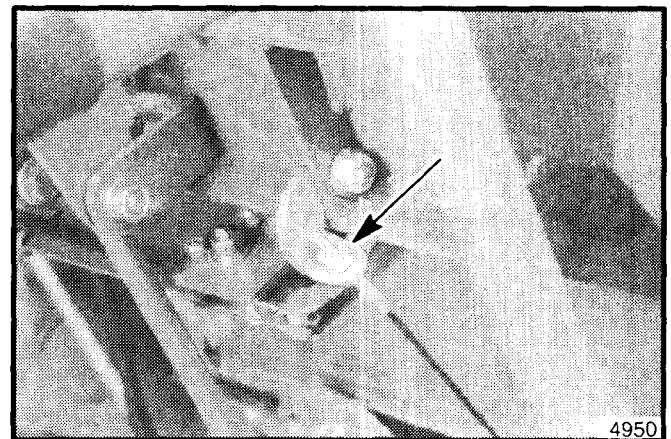

Figure 28. Cable Adjustment Nuts
2. After the hook has been adjusted. Loosen the two jam nuts at the top of the cable (see figure 28). Adjust the bottom nut to take up any slack in the cable. Be careful not to overtighten the cable or the hook may not hold the reel idler assembly. Use the top nut to lock the lower nut into place.